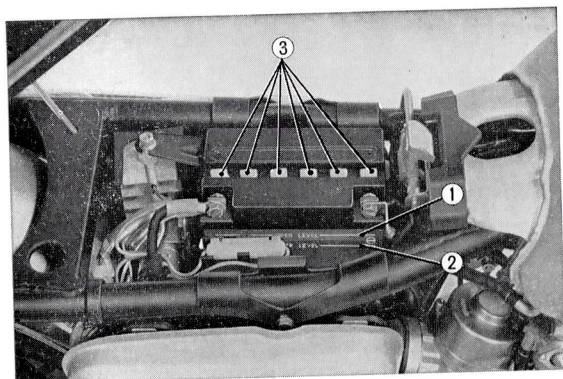

Fig. 6.42
- b. Electrolyte level must be above the lower level. When the level is low pour in distilled water to the upper level. (Fig. 6.42)
- (1) When replenishing electrolyte, do not use dilute sulfuric acid.
- (2) When the electrolyte decreases quickly, check the charge.
- (3) Insure that the breather tube is not clogged.
- (4) When removing the battery, first remove the (—) side terminal, and then the (+) side terminal. If not, it may cause shortcircuit, shock or apply an unreasonable load to the battery.
- (5) Grease around the terminals slightly to prevent corrosion.
- (6) Battery (+) or (—) side lead wire should be firmly tightened.